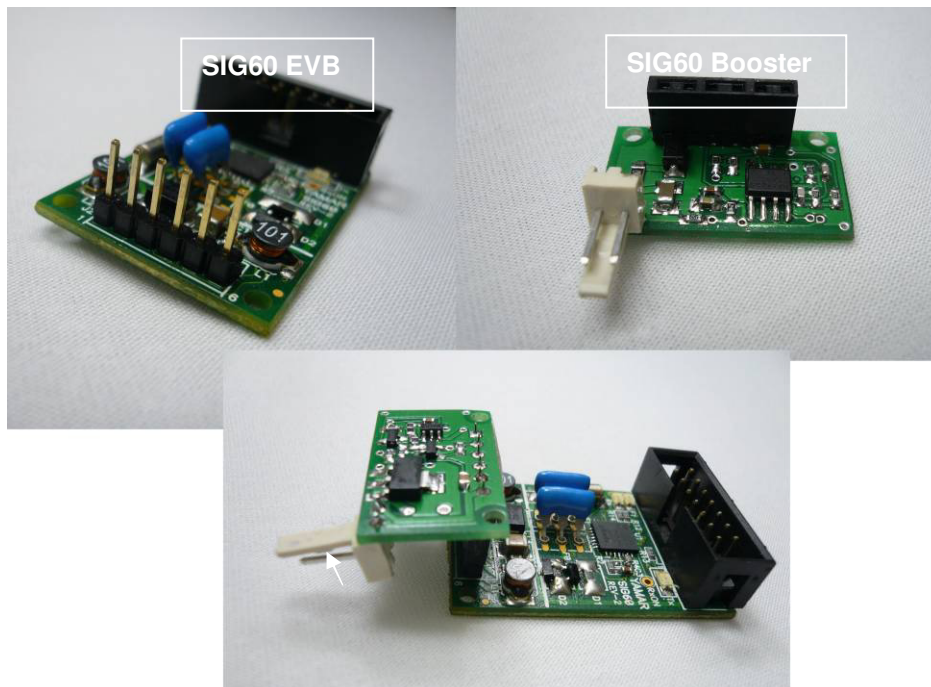

Figure 3 - Booster Setup View
3. Connect the Booster on top of the assembled header. (See figure 3)